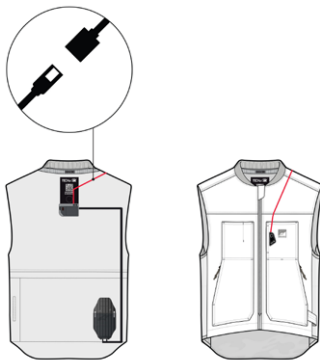

Figure 16
1. Access the Electronic Control Unit (3) present in the pocket located on the back of the System. To access the pocket, open the vest using the zip and hook-and-loop patches present on the inner part of the vest.
2. Disconnect the cable that powers the LED Display (2), indicated in Figure 16.